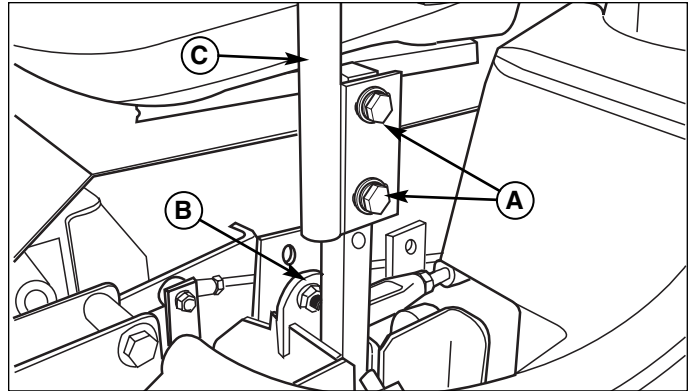

Figure 21. Control Lever Adjustment
To Adjust the Handle Alignment: Loosen the mount bolts (A, Figure 21) and pivot the lever(s) (C) to align with each other.
To Adjust the Handle Placement: Loosen the jam nuts and adjust the placement bolt (B, Figure 21) in or out to properly adjust the lever end spacing.